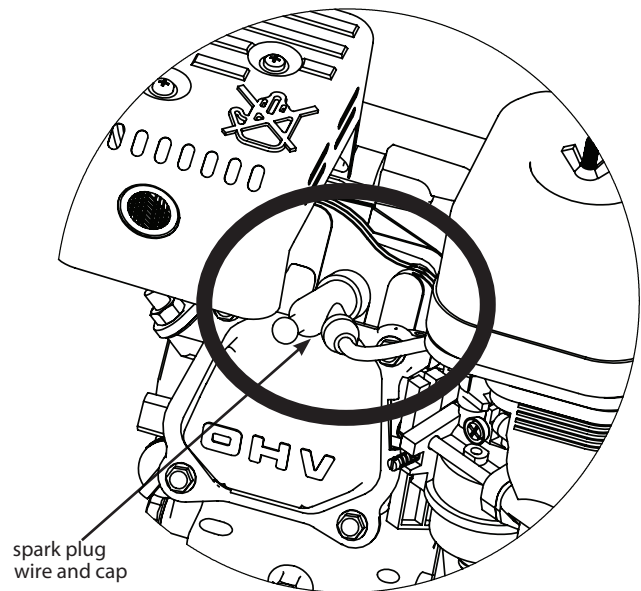

Figure 8: Spark plug location
1. Detach spark plug wire and move away from spark plug. If engine uses a battery; disconnect at negative terminal. **SEE FIGURE 8.**